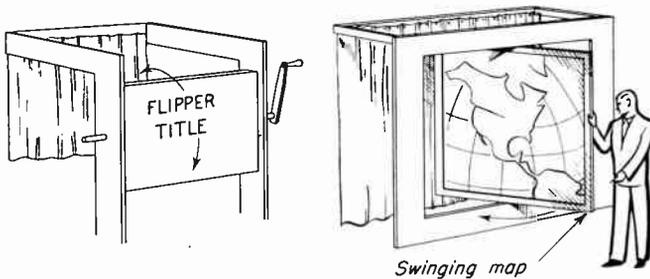

Fig. 9-11. Vertical and horizontal flippers.
**The flipper.** This is a derivation of the drum and windmill devices but holds only two cards. It is a two-sided drum. A flipper can be rotated either on its vertical or on its horizontal axis. The author has used the flipper principle for large news maps which could be swung around to show a second map, sometimes a close-up of the first, on the reverse side (Fig. 9-11). In the case of both the 11- by 14-inch flipper and the swinging map, a change could be made on the back side if time were allowed, and a series of pictures could be run. However, at the halfway point of the flip, the cards are edgewise to the camera and don't occupy the entire screen, so that whatever stray studio equipment, stagehands, etc., happen to be standing behind the machine will be seen, if only for the briefest moment, and registered on the eye. A special backing is necessary for these machines; usually a simple curtain will suffice, hung as close to